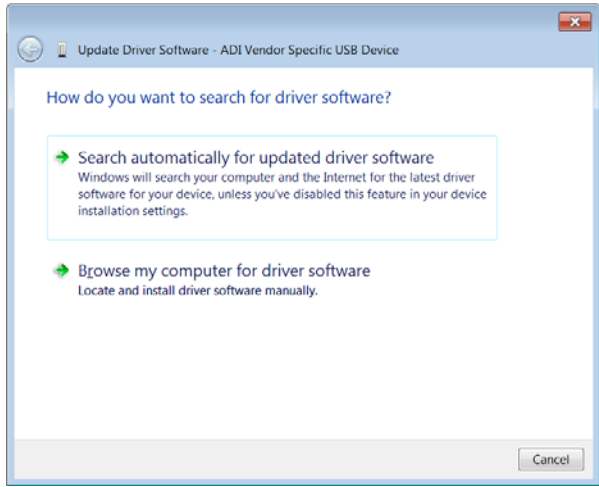

Figure 10. Update Driver Pop-Up
- 4. To install the drivers for the device, click **Browse my computer for driver software** in the update driver software pop-up that appears (see Figure 10).